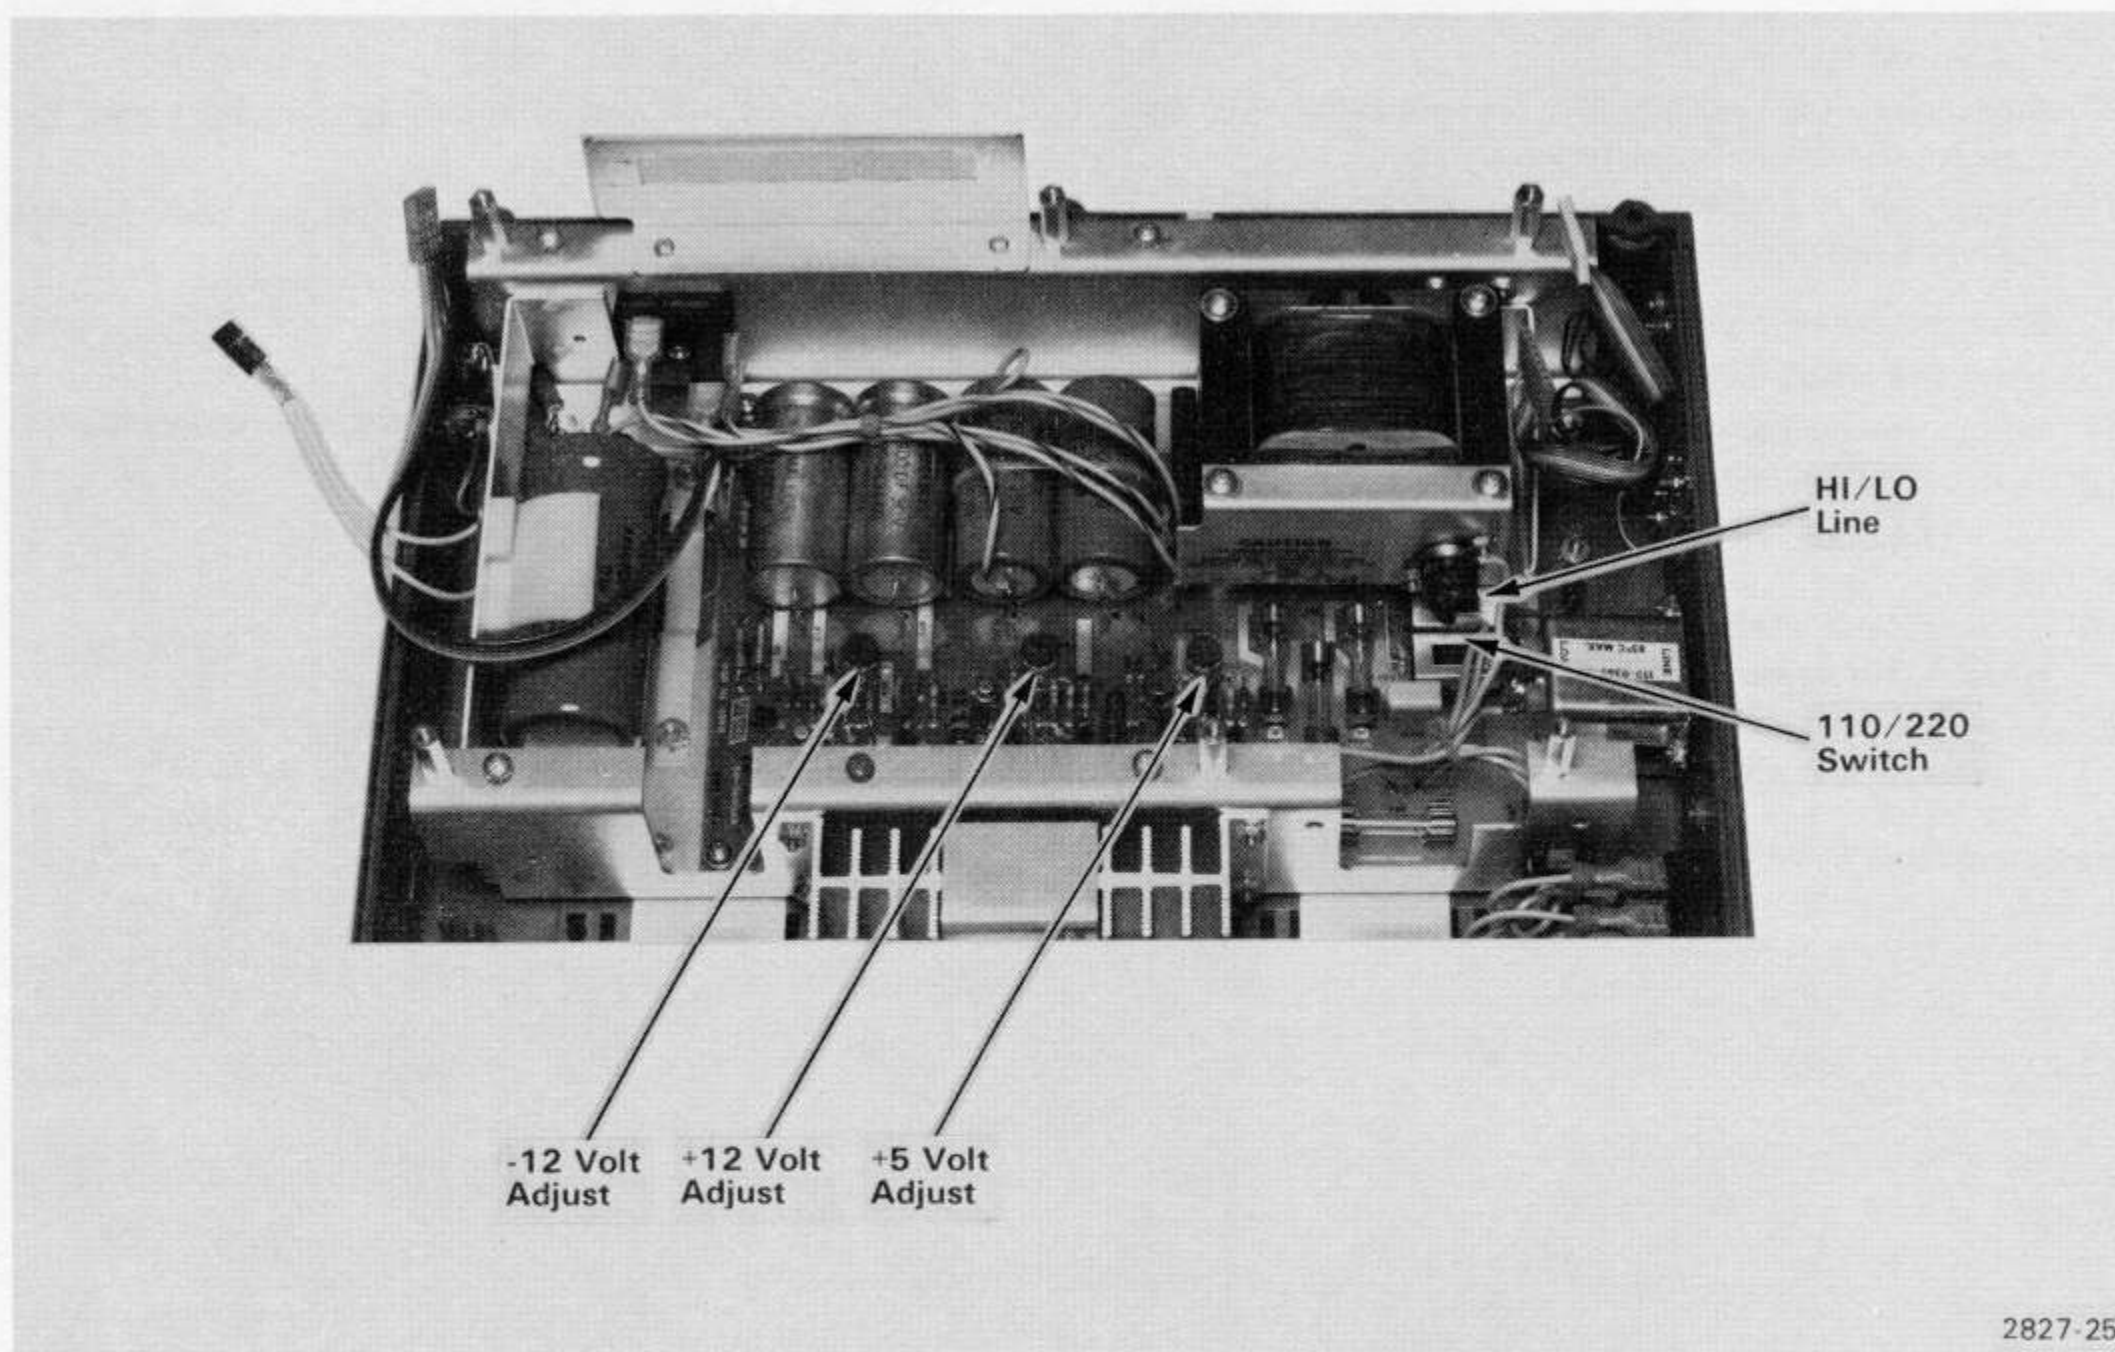

Fig. 6-5. MicroLab I Power Supply Adjustment Points.
3. Set the HIGH/LOW line voltage switch on the MicroLab I power supply board (shown in Fig. 6-5) to the HIGH position.